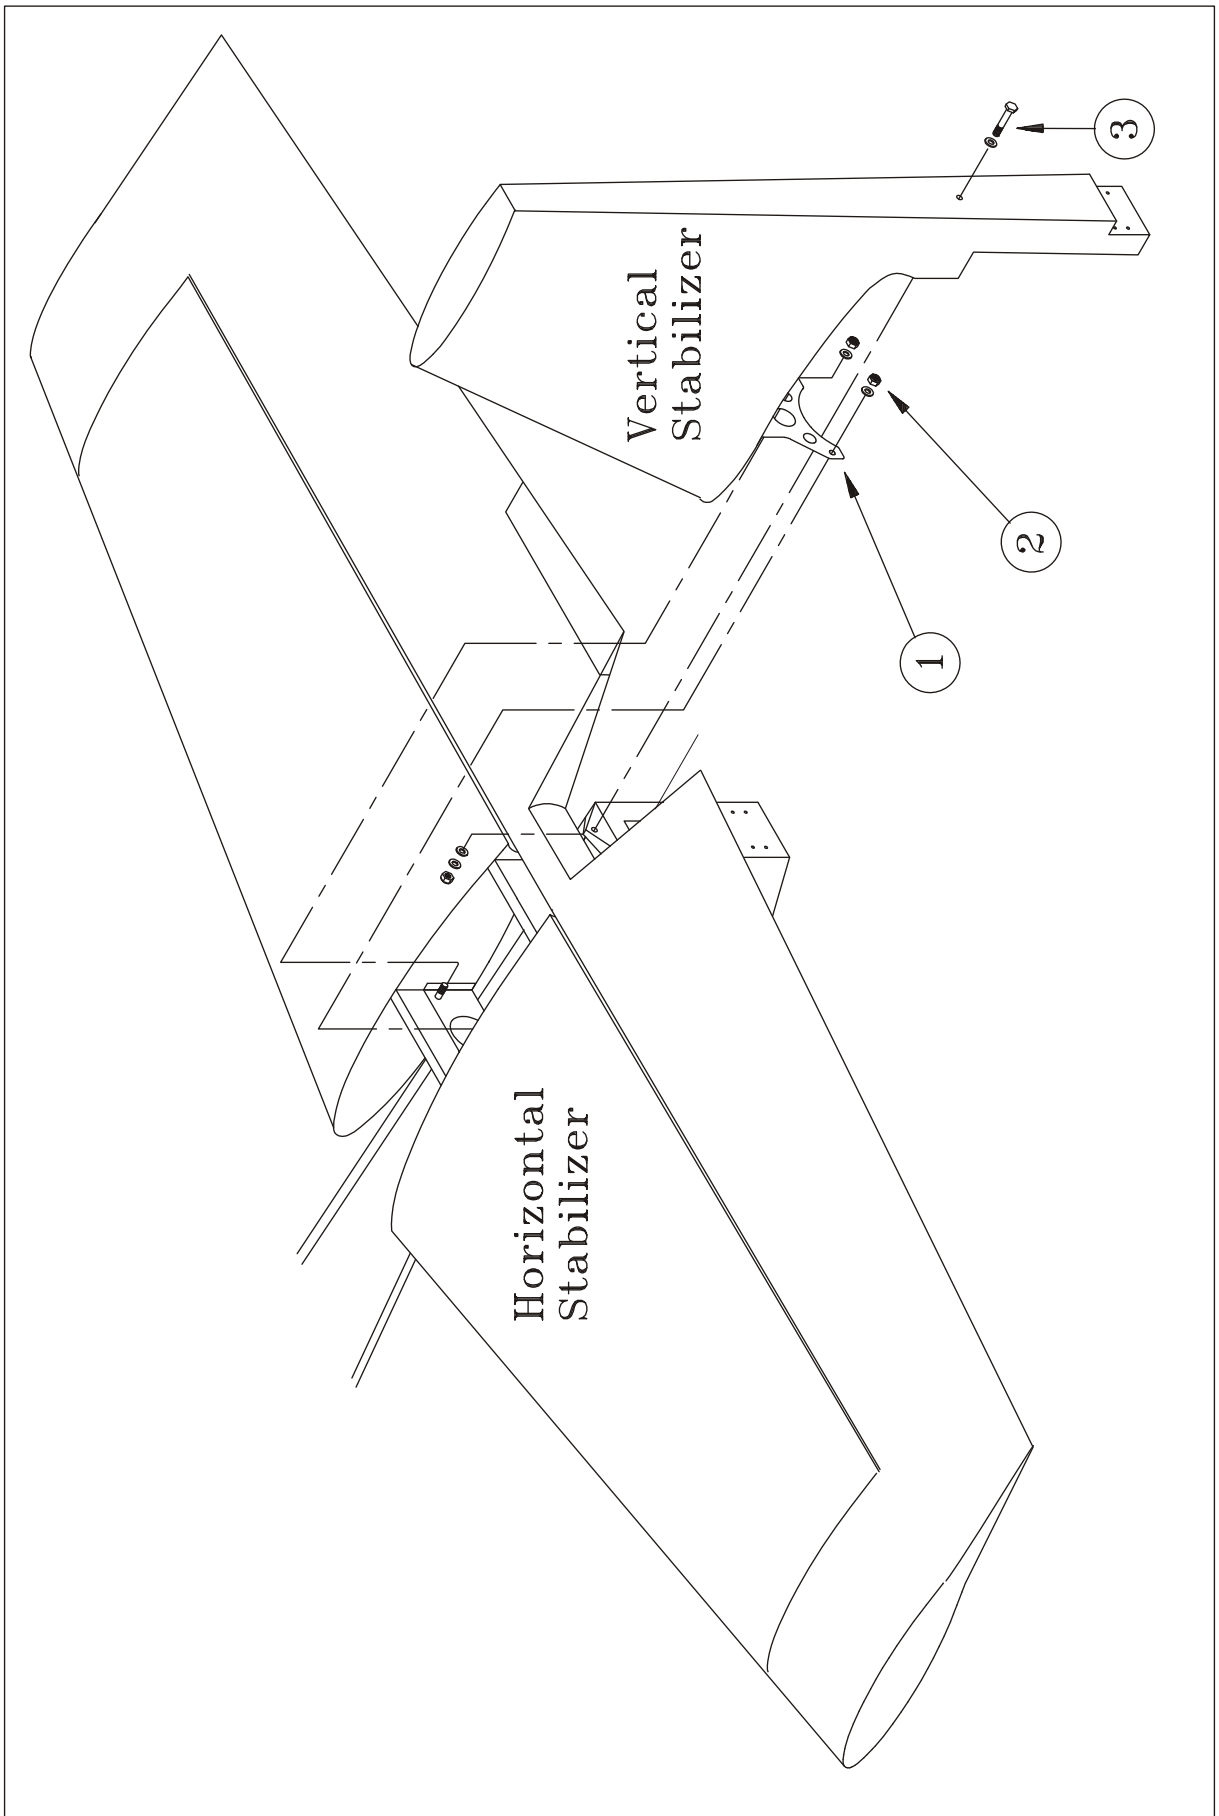

Figure 4
- 4 Remove the two LN 9348-10 stop nuts (2, Figure 4) and DIN 125 M10 washers of the front main bolts.
- 5 Remove the rear LN 9037-10054 main bolt (3) with the DIN 125 M10 washers and the LN 9348-10 stop nut.
- 2 Slide the auxiliary spar attachment sheet (1, Figure 4) of the vertical stabilizer from the rear over the preinstalled horizontal stabilizer front spar bolts and install the DIN 125 M10 washers and LN 9348-10 stop nuts (2).
- 3 Insert the LN 9037-10054 bolt (3) to the main spar from rear to front. Use LN 9348-10 stop nuts and DIN 125 M10 washers.